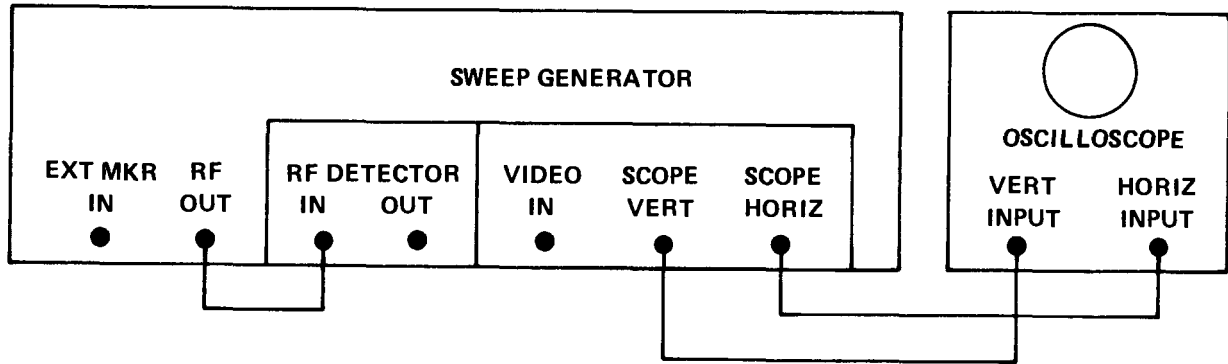

Figure 4-13. Adjustment Connections (Sweep Drive Ckt.)
- i. Using coaxial cables, connect oscilloscope to sweep generator as shown in figure 4-13.
- b. Connect oscilloscope to sweep generator as shown in figure 4-13.